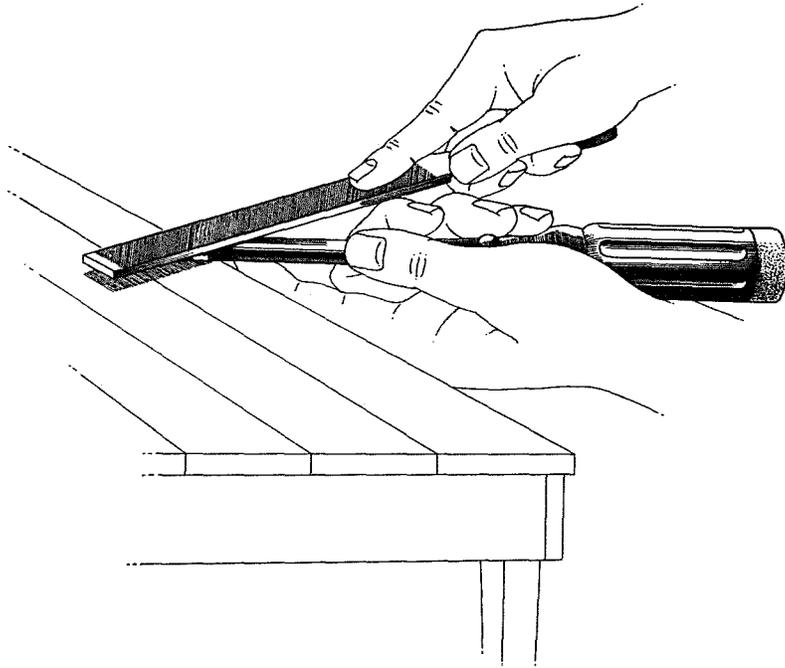

Fig. 8
5.11 The faces of the blade are then dressed down restoring the thickness of the tip to its original size as closely as possible. The angle or taper of the two faces should be the same and not greater than the original, but can be less if desired. This may be accomplished by making the faces of the blade longer. The faces of the blade should be flat. For this operation place the screwdriver in the vise as outlined in 5.07. If a vise is not available hold the screwdriver and file as shown in Fig. 8, applying the file to the entire broad flat face of the blade as outlined in 5.09.